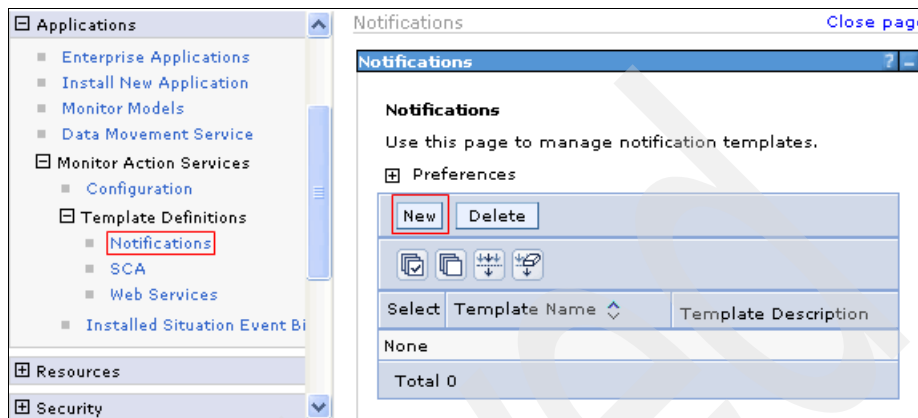

Figure 8-137 Adding a new notification template
4. In the left pane of the administrative console (Figure 8-137), expand **Applications** → **Monitor Action Services** → **Template Definitions** and click **Notifications**. In the right pane, click the **New** button.